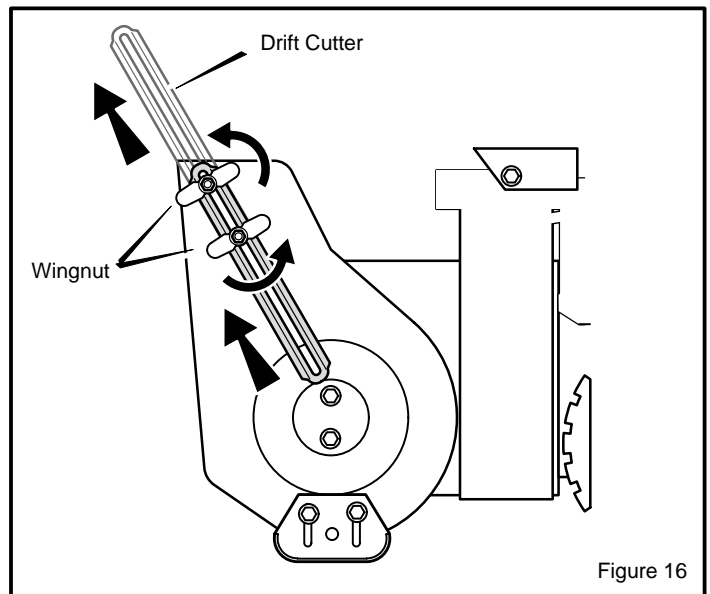

Figure 16
1. Loosen the **wingnuts** that secure the **drift cutters** to the auger housing (see Figure 16).